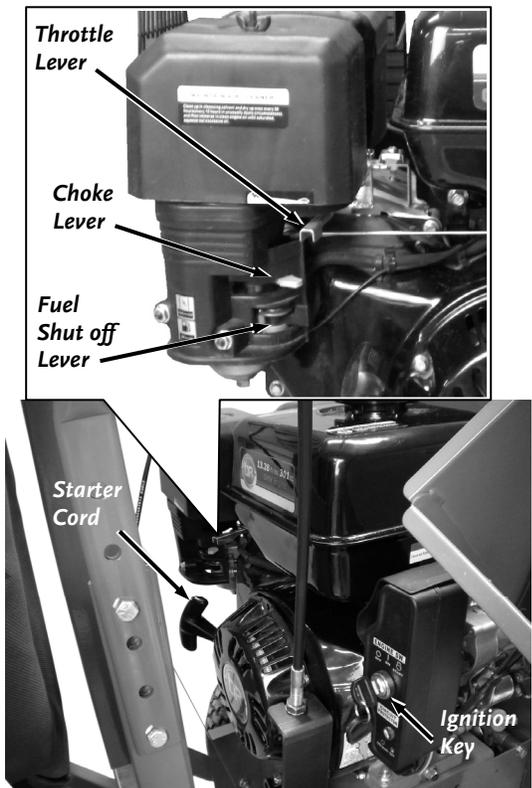

Figure 20
1. Move the Fuel Shut Off Lever to the ON position (**Figure 20**).
1. Slowly move the Throttle Control Lever to the “IDLE” (Turtle) position (**Figure 20**).